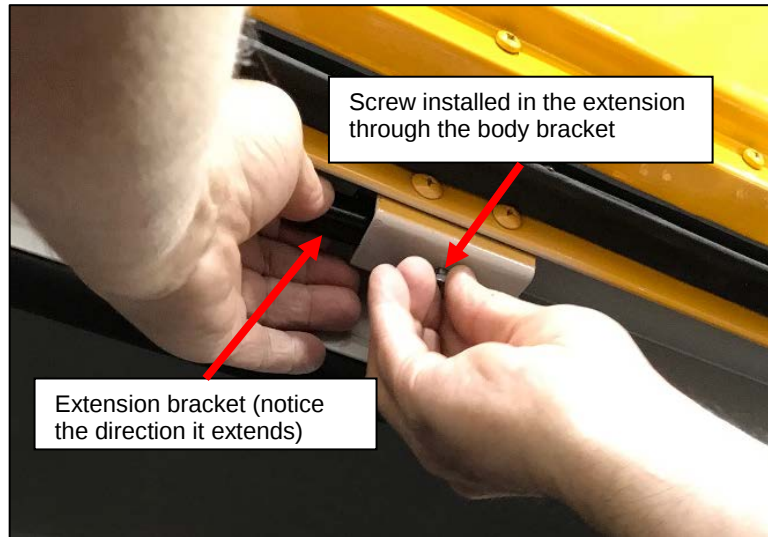

Figure 4: Installing the Extension into the Body Bracket.
6. Push the screw through the body bracket hole and into the extension bracket with the extension sticking out of the body bracket to the left and hand tighten flush (if it is too tight to hand tighten, use a drill to loosen). See **Figure 4**.